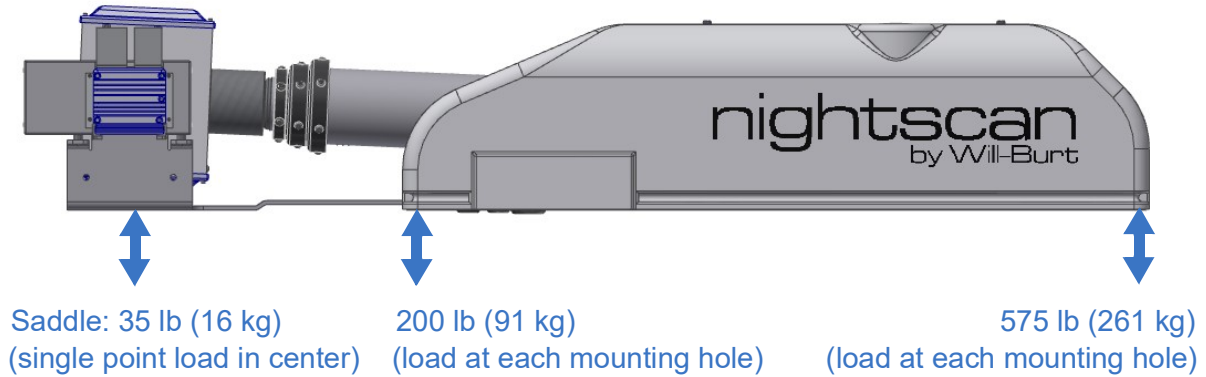

Figure 5-1 Night Scan Chief Reaction Loads on Mounting Structure
6. It is important that both the base and the saddle be securely mounted to a sturdy roof or platform which will not overturn during operational loading of the mast. The surface must be reinforced to withstand the load at the different points on the mast that can be expected during operation as shown in Figure 5-1. These are maximum load estimates placed downward and sometimes upward on the vehicle top by the mast.